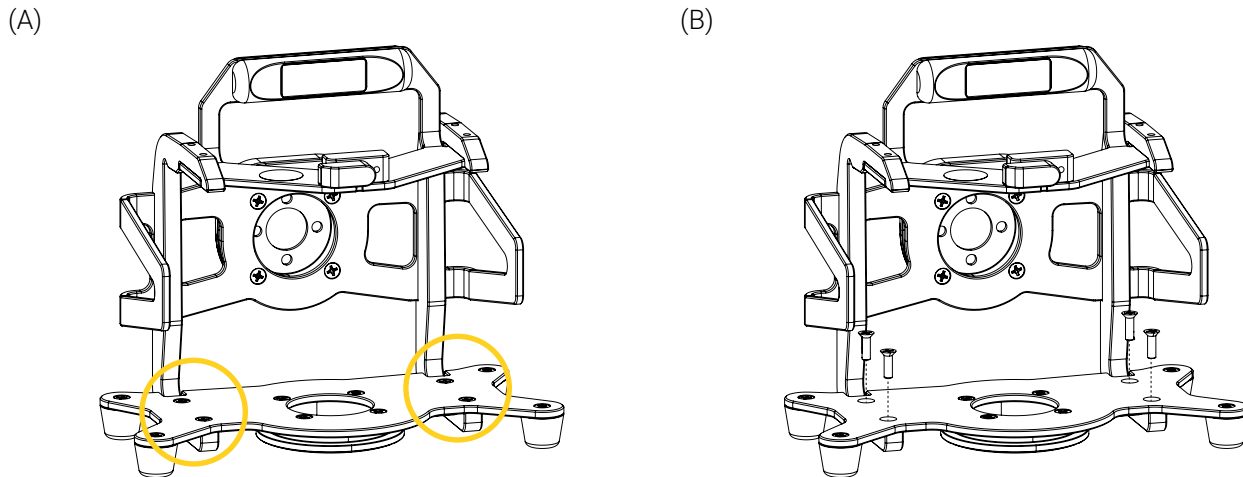

Figure 25: Removing the base plate screws
2. Identify and remove the four (4) 10-32 X 3/4 in. L flat head screws located at the front of the base plate using a Phillips-head screwdriver #2 (Figure 25), and store them for a future use.